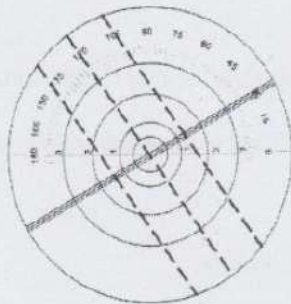

Fig 2
1. Cylindrical astigmatical lens diopter measurement. The cylindrical lens has different diopter on cross-sections vertical to each other, when the cross reticule is partly clear the image is cylindrical, the lens have cylindrica astigmatical diopter. As see Fig. 2.